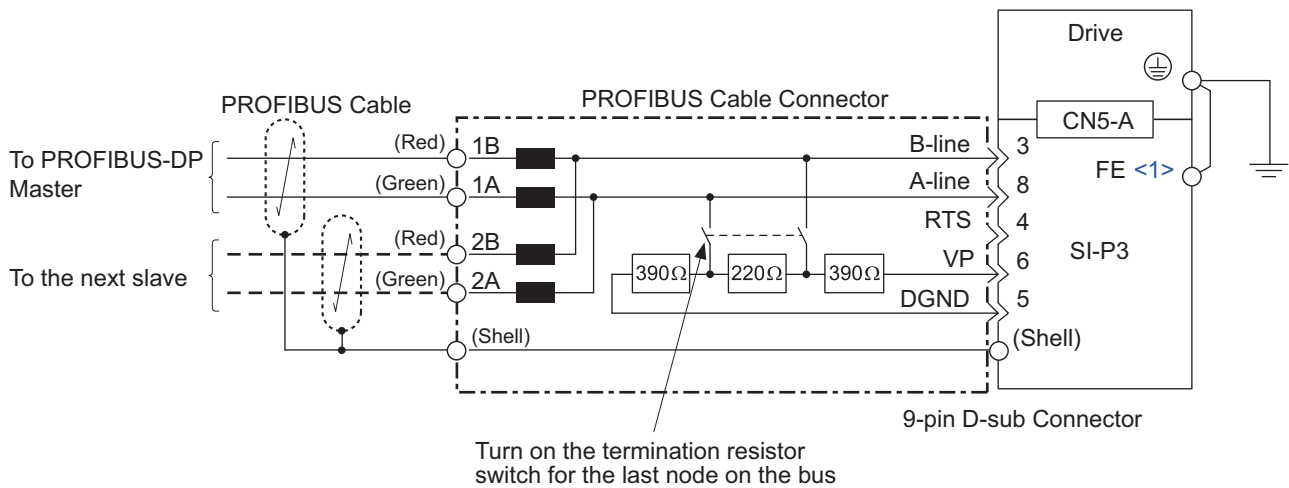

Figure 19 Option Connection Diagram
6. Firmly connect the PROFIBUS-DP communication cable to option communication connector CN4. Install PROFIBUS-DP communications cables apart from main-circuit wiring and other electrical and power lines. Ensure the cable end is firmly connected (see Figure 19). Refer to Communication Cable Specifications on page 22 for details.
7. Reattach the drive front covers (C, F) and the keypad (D).
6. Select the proper PROFIBUS-DP dedicated communication cable according to Table 7 and Table 8. Firmly connect the PROFIBUS-DP communication cable to option communication connector CN4. Install PROFIBUS-DP communications cables apart from main-circuit wiring and other electrical and power lines. Ensure the cable end is firmly connected (see Figure 19). Refer to Communication Cable Specifications on page 22 for details.
Termination resistors without inductors as shown in Figure 21 can only be used for baud rates below 1.5 Mbps. Baud rates 1.5 Mbps and higher require termination with resistors and inductors as shown in Figure 19.